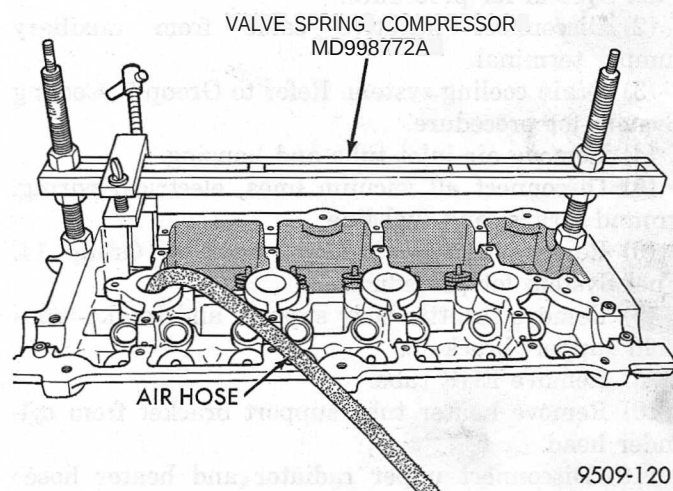

Fig. 48 Valve Spring-Removal/Installation
- (1) Remove camshafts as previously outlined in this section.
- (2) Rotate crankshaft until piston is at TDC on compression.
- (3) With air hose attached to adapter tool installed in spark plug hole, apply 90-120 psi air pressure.
- (4) Using Special Tool MD-998772-A with adapter 6779 (Fig. 48) compress valve springs and remove valve locks.
- (5) Remove valve spring.
- (6) Remove valve stem seal by using valve stem seal tool.
(2) Install valve spring and retainer, use Special Tool MD-998772-A with adapter 6779 to compress valve springs only enough to install locks (Fig. 48). Correct alignment of tool is necessary to avoid nicking valve stems.
(3) Remove air hose and install spark plugs.
(4) Install camshafts as previously outlined in this section.
(5) Install cylinder head cover as previously outlined in this section.